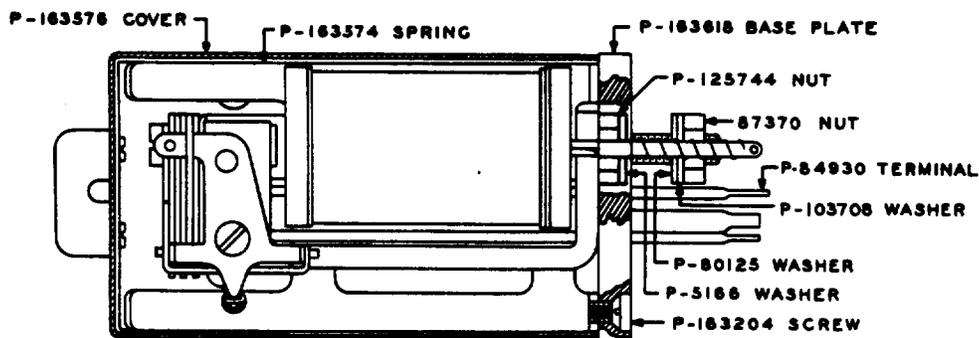

Fig. 1 - No. 214A Relay
1. Figs. 1 and 2 revised, and Figs. 3 and 4 added to cover revisions in piece-part information.